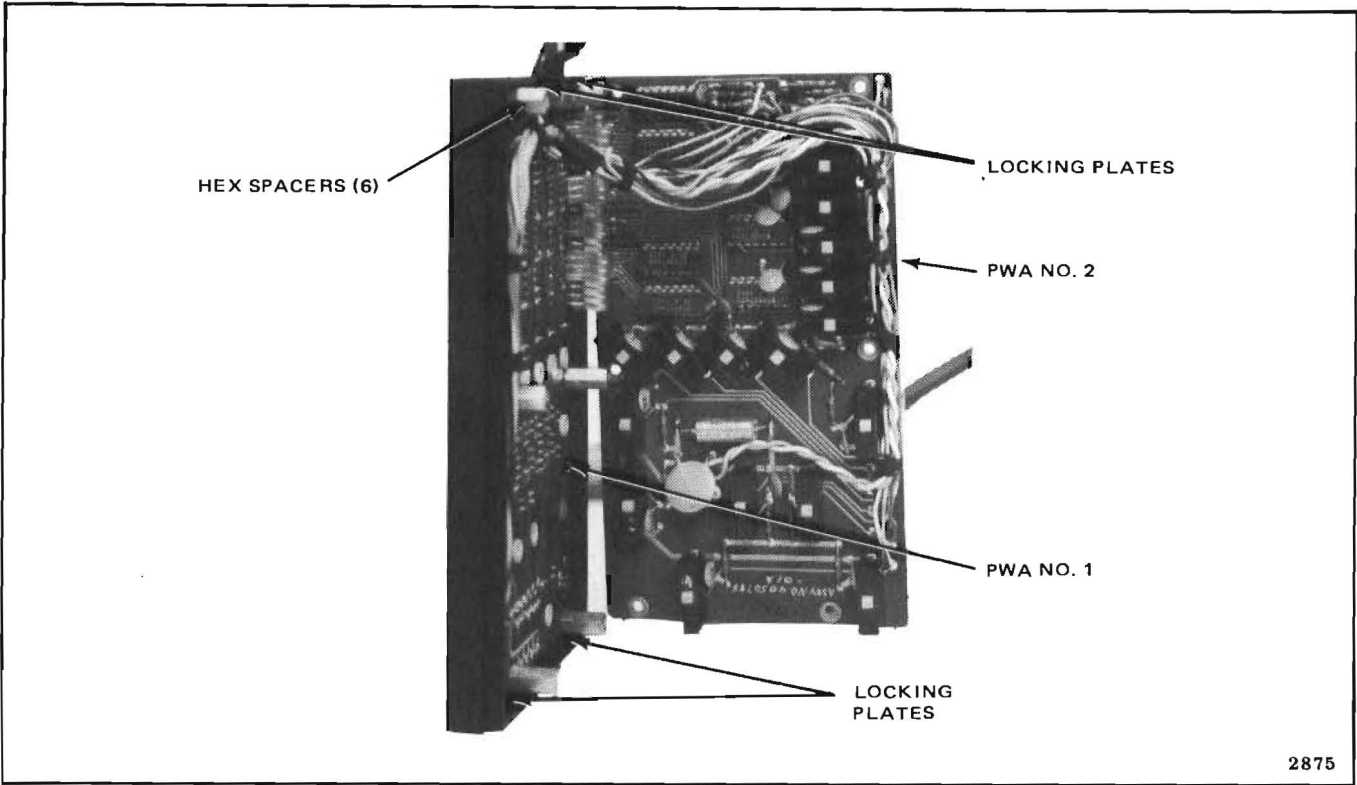
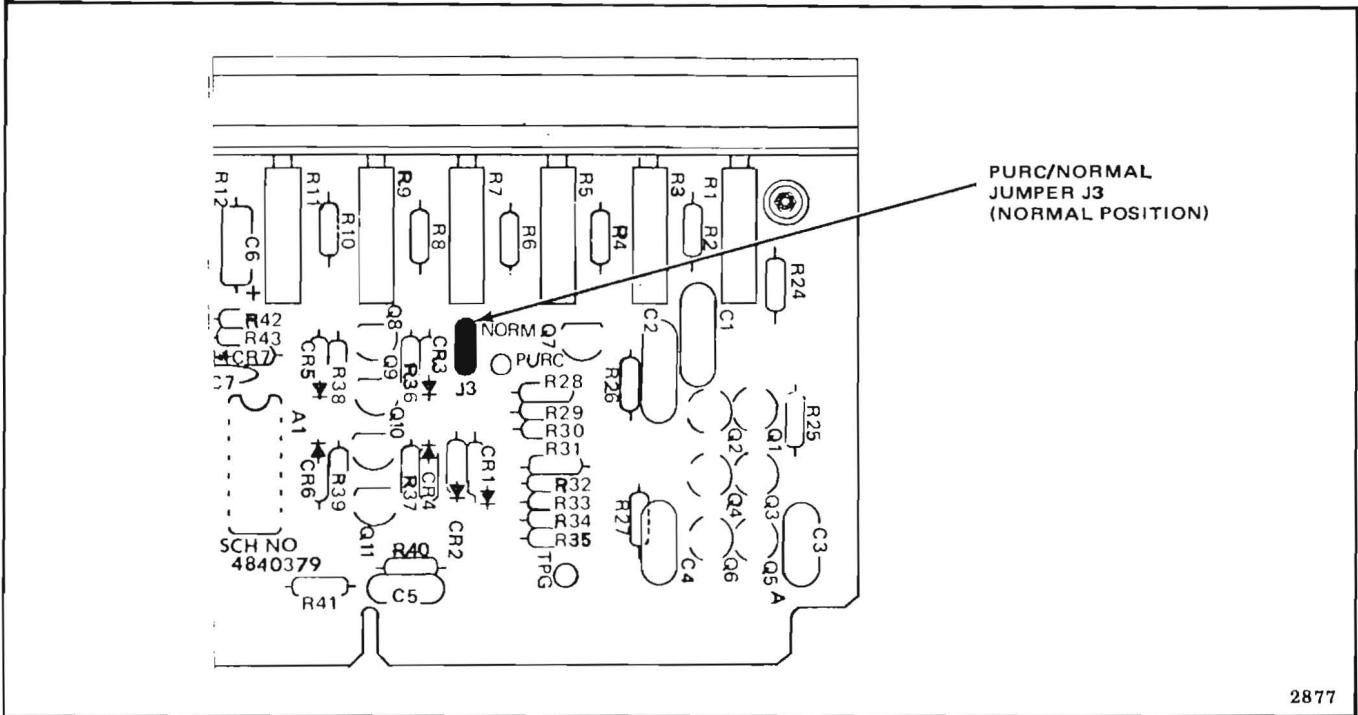

Figure 2-23. Inside View of Control Unit
Figure 2-25. PURC Jumper Two-Speed PADNET PWA
6. Remove two screws shown in Figure 2-25 to gain access to six hex spacers shown in Figure 2-23.
7. Remove the four locking plates (Figure 2-23) that prevent the four outer hex spacers from turning.